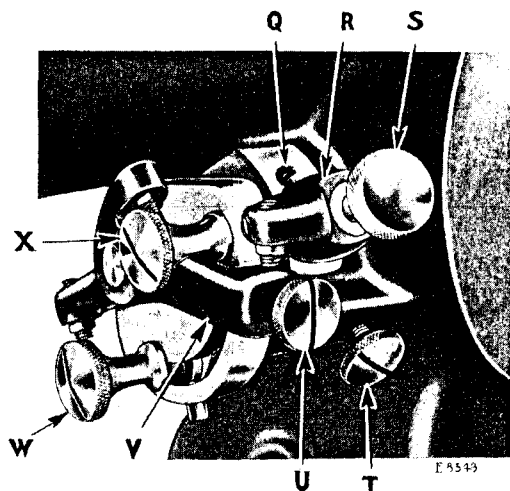

Fig. 17. Machine Adjusted for Flat Stitch Embroidery with Needle Vibrating Equally on Each Side of a Centre Line
By shifting the hand lever (R, Fig. 17), the zero position of the needle can be moved forward $\frac{3}{8}$ inch from the centre line and the stitching can then be varied any width up to $\frac{1}{4}$ inch to the rear of the zero position of the needle, as shown in Fig. 16.
When desired, the needle vibrating mechanism can be locked to produce any width of stitching within the capacity of the machine, by tightening the thumb screw (U, Fig. 17).
The two stop screws (W and X, Fig. 17) are provided for limiting the extent of the vibrations of the needle when it is desired to produce varying widths of stitches within predetermined limits less than $\frac{1}{8}$ inch wide or above the zero position of the needle.
Each form of seam is governed by the lever (R, Fig. 17) at the right of the machine. To move this lever, loosen the set screw (T, Fig. 17), pull out the lever plunger (S, Fig. 17) and move the lever (R) up or down, as desired, allowing the plunger (S) to enter the hole in the arm, then tighten the set screw (T).
When the plunger (S) is in the upper hole (Q, Fig. 17) in the arm, the zero position of the needle is moved forward $\frac{5}{32}$ inch from the centre line and the width of the stitching can then be increased or decreased from a straight line at the front edge of the seam (see Fig. 16).
Loosen the set screw (T, Fig. 17) and place the lever plunger (S, Fig. 17) in the lower hole (Y, Fig. 18) in the arm of the machine and press the knee lever until the needle vibrates to the desired width of seam, then tighten the large thumb screw (U, Fig. 17) in the lever (V, Fig. 17).
The two stop screws (W and X, Fig. 17) are provided for limiting the extent of the vibrations of the needle when it is desired to produce varying widths of stitches within predetermined limits less than $\frac{1}{16}$ inch wide and above the zero position of the needle. For example: If the extreme width of the seam is not to exceed $\frac{1}{4}$ inch, adjust the lower stop screw (W) as follows: Press the knee lever until the needle vibrates up to $\frac{1}{4}$ inch, hold the knee lever in this position and loosen the stop screw (W) and move it until it comes into contact with the lever (V, Fig. 17), then tighten the stop screw (W), and release the knee lever.
Always tighten the set screw (T, Fig. 17) after moving the plunger (S, Fig. 17) in the lever (R, Fig. 17).
Loosen the set screw (T, Fig. 17) pull out the lever plunger (S, Fig. 17) and move the lever (R, Fig. 17) upwardly, allowing the plunger (S) to enter the upper hole (Q, Fig. 17) in the arm of the machine, then tighten the set screw (T).